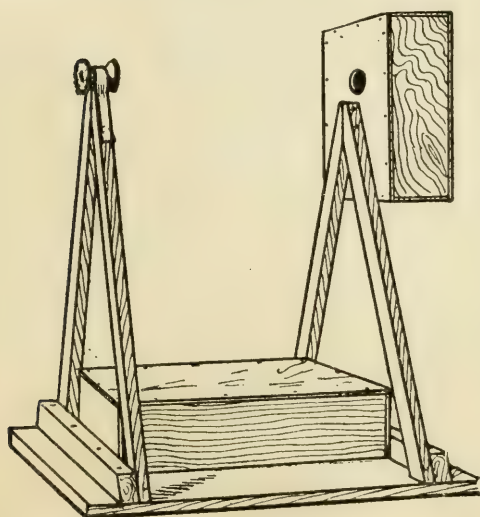

FIG. 267. — Standard for the Ferris Wheel.
**The Standard** for supporting the wheel (Fig. 267) consists of two triangular supports, one with a spool
### The Station Platform (Fig. 267).